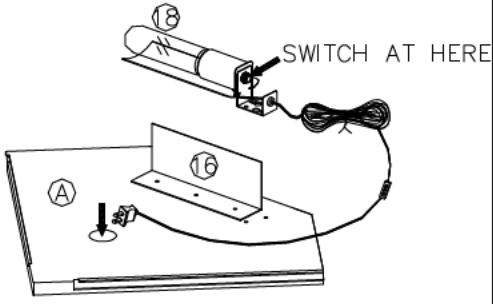

Figure 12
Move the item close to the wall and tie brackets (10) with plastic straps (11) as shown in Figure 12.
Fit the plug to the appropriate power source. Turn the light on and off by turning the switch on the side of light fixture as shown in figure 12.